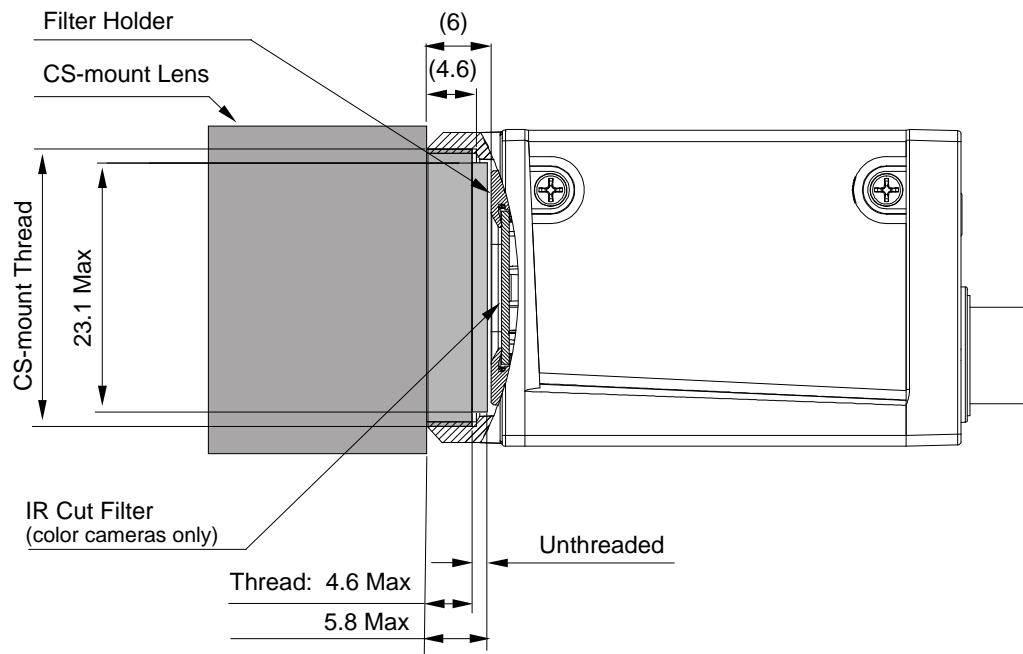

Fig. 20: Maximum Lens Thread Length (Dimensions in mm) for Cameras with the CS-mount Lens Adapter
- Camera with CS-mount lens adapter (see Figure 20)